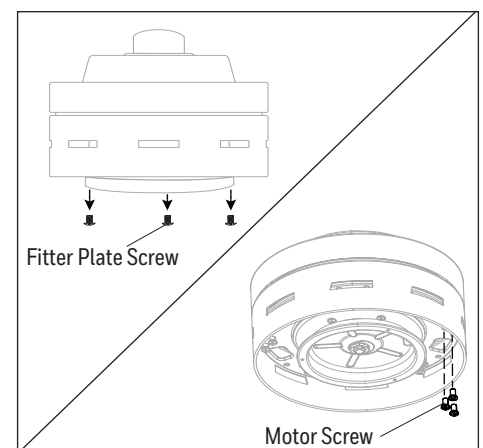

Figure 2.3
3. Remove the three fitter plate screws and the packing material from the motor assembly. Discard the orange packing material from the top and bottom of the motor assembly but save the three fitter plate screws for later. Remove the 24 motor screws from the underside of the motor assembly and save them for blade arm assembly (Figure 2.3).